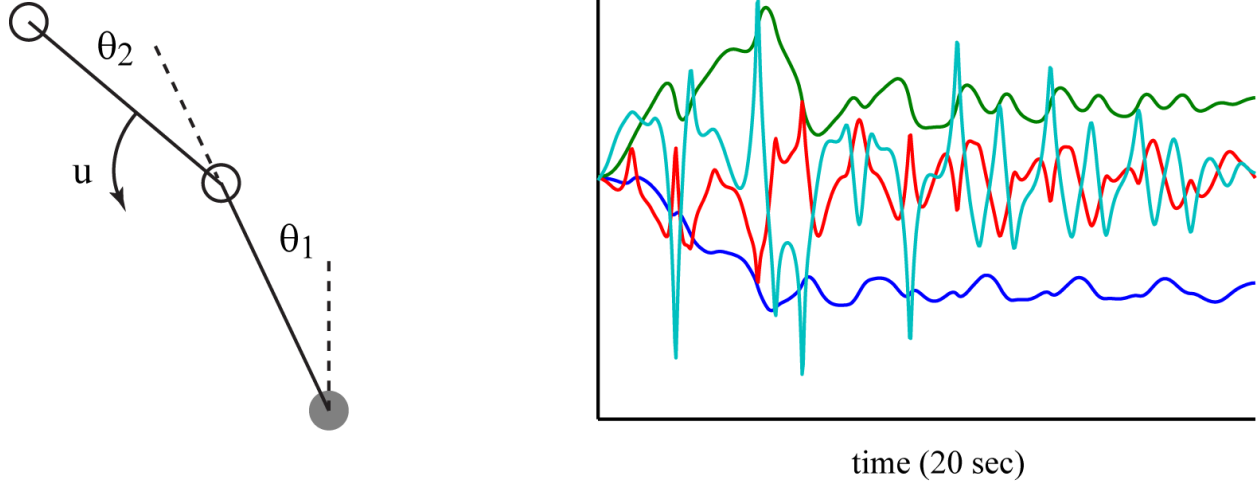

Figure 1: Acrobot system (left) and joint positions and velocities over time for an uncontrolled evolution. Only the second joint (elbow) is actuated.
2. [25 pts] **Programming Assignment** In this problem, we will consider a deterministic double pendulum system known as the acrobot (Fig. 1). The acrobot state  $x = (\theta_1, \theta_2, \dot{\theta}_1, \dot{\theta}_2)^T$  is defined by the joint angles  $\theta_1, \theta_2$  and their velocities. The scalar control input  $u$  is the torque acting on the second joint, leading to